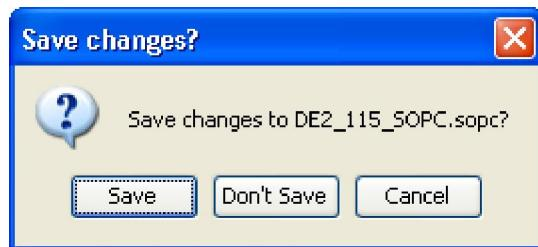
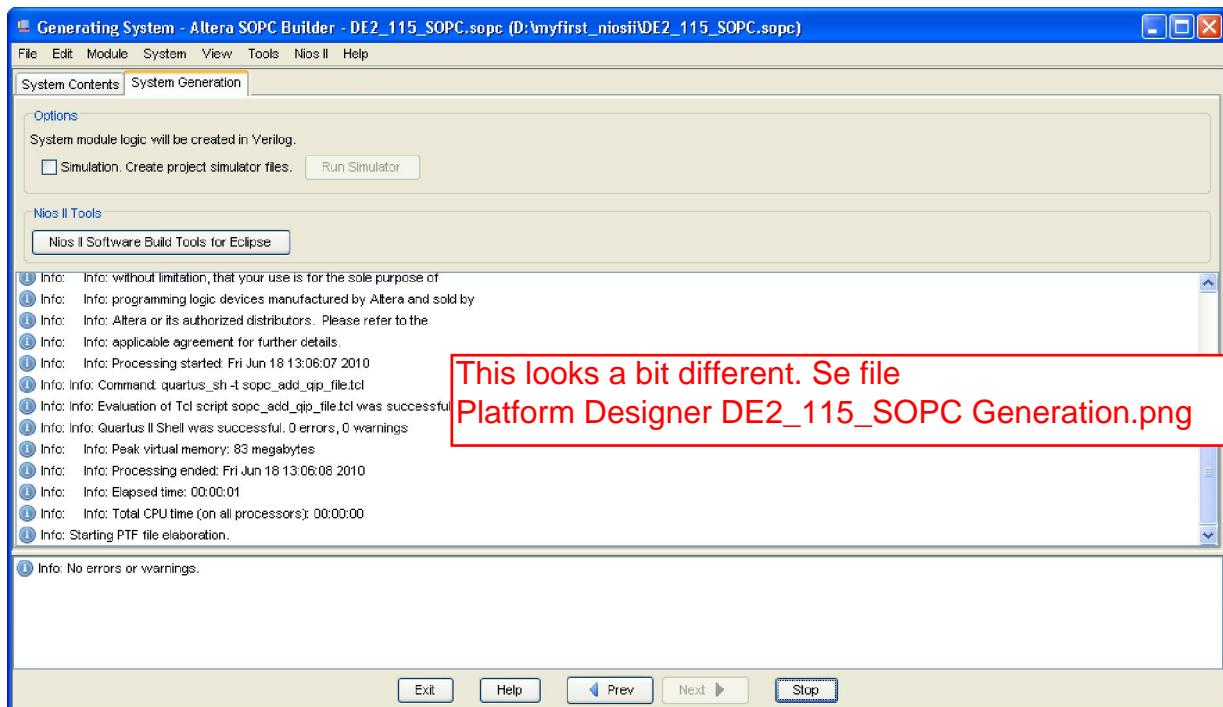

Figure 1-36 Generate SOPC
Figure 1-37 Generate SOPC
23. Click **Generate** and then pop a window as shown in Figure 1-36. Click **Save** and the generation start. Figure 1-37 shows the generate process. If there is no error in the generation, the window will show successful as shown in Figure 1-38.